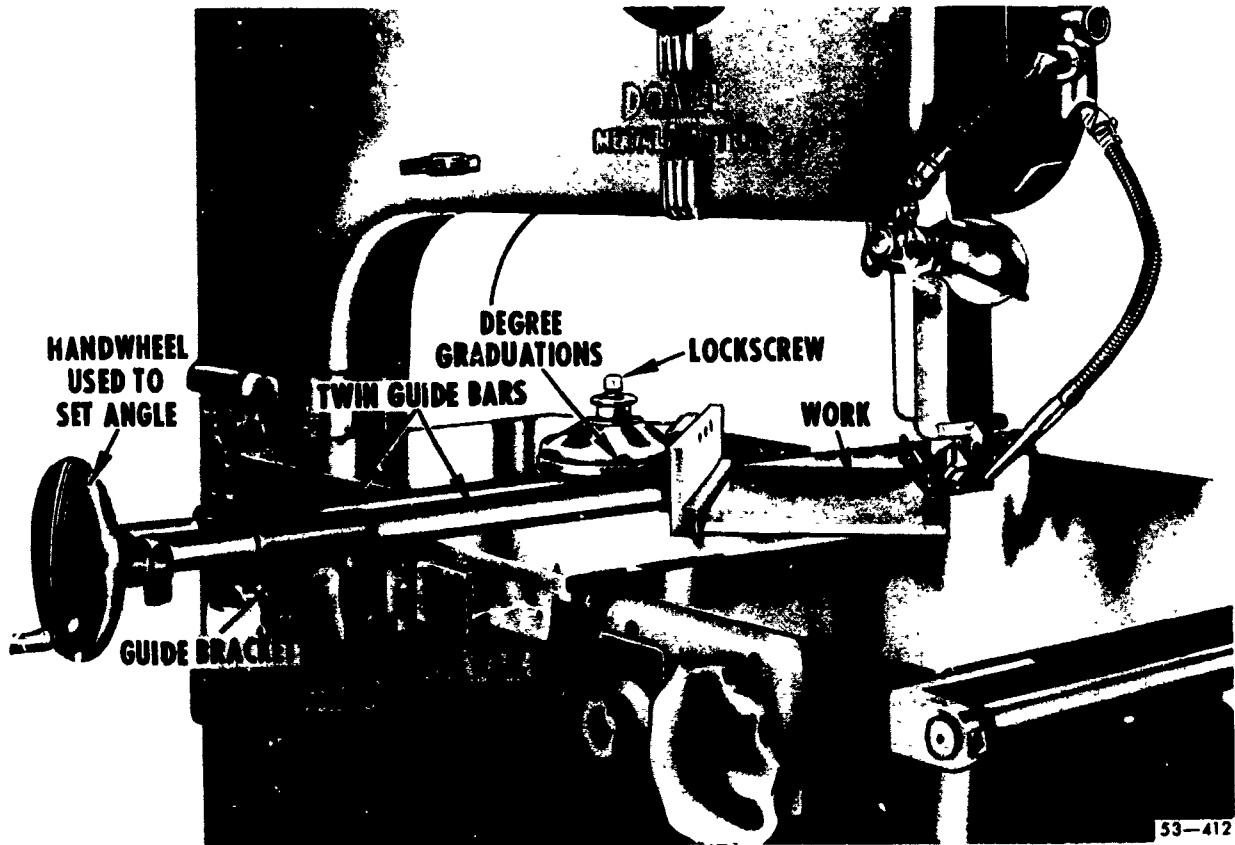

Figure 3-24. All-purpose mitering attachment.
**All-Purpose Mitering Attachment.** You can perform three operations with the all-purpose mitering attachment, shown in figure 3-24. You can use it with hand or power feed for (1) ripping, (2)